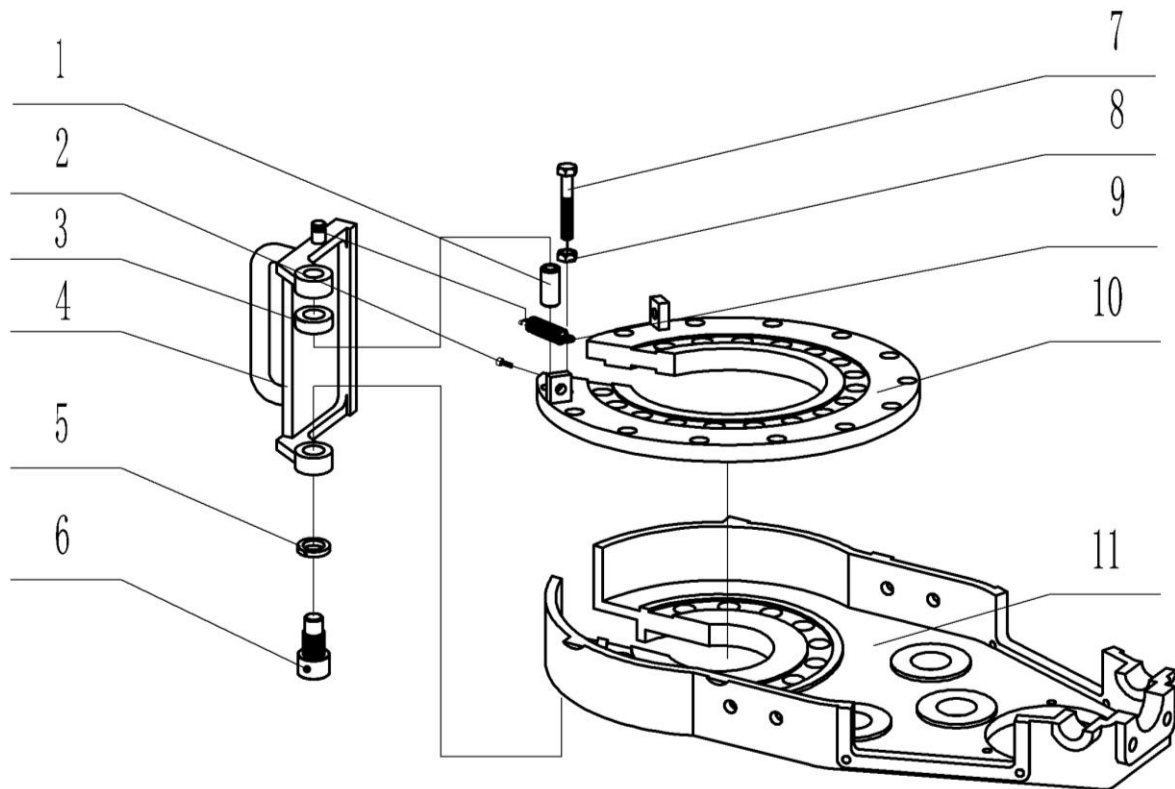

Fig 12
9.8 Safety door assembly and parts list (Fig.12,Table8)